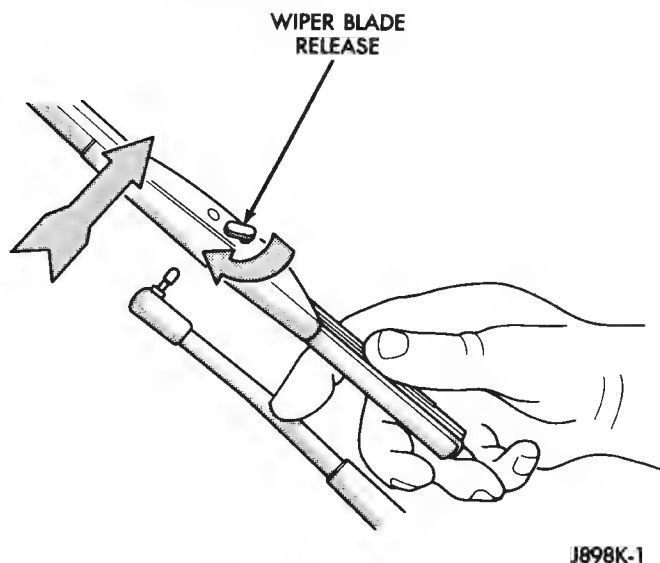

Fig. 3 Wiper Blade Remove/Install
(1) Rotate the wiper blade release (Fig. 3) clockwise. This will release the wiper blade from the pivot pin.